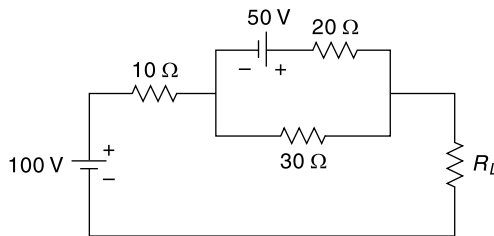

Fig. 4.106 Circuit of Ex. 4.78
4.78 Find Norton's equivalent circuit for the network shown in Fig. 4.106.